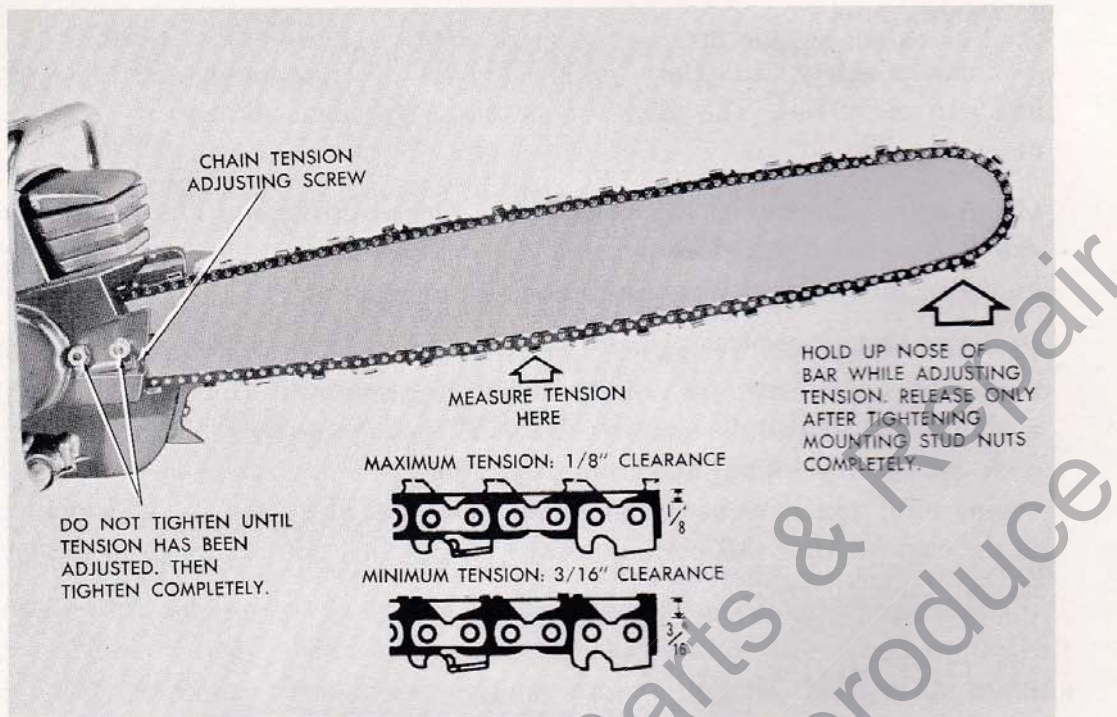

Figure 3—Adjusting Chain Tension
(1) Hold up the tip of the guide bar to take up the play between the studs and mounting slot. The guide bar must be held in this position until the chain tension has been set and the stud nuts tightened. Otherwise, the assembly will shift on the first cut, changing the tension. Improper tension increases wear.
(2) Turn the chain tension adjusting screw *clockwise* until the drive tangs *just* enter the guide bar groove at point shown in figure 3. At the same point, grasp chain between thumb and forefinger—pull it downward—then release. Once again adjust tension so drive tangs *just* enter guide groove as shown
in figure 3. Now tighten the stud nuts completely to lock tension device at this setting. The proper amount of chain slack is illustrated in figure 3.
- (3) KEEP ALL EQUIPMENT IN GOOD OPERATING CONDITION. Poor equipment invites accidents. Keep your chain saw in top shape—chain sharp and properly tensioned. Working with dull chain, tires the operator and makes him less aware of woods hazards.
- (4) HANDLE FUEL SAFELY. Use approved fuel safety containers. When refueling find or clear a bare spot of ground before pouring. If fuel is spilled on saw, wipe it down immediately. Move at least ten feet away from refueling spot before starting engine.
- (5) WEAR PROTECTIVE CLOTHING. Always wear trim-fitting garments of a type least likely to catch in the saw chain. Always wear your safety helmet in the woods. Footwear should be sturdy, with non-slip soles.
- (6) BRUSH OUT SUFFICIENTLY. Always clear all obstructions and debris from the working site as well as from the path of safe retreat. Remove all dead material from the immediate cutting area to minimize fire hazards.
- (7) KEEP YOUR BALANCE AT ALL TIMES. Always keep both hands firmly on your chain saw when cutting. Stand clear of the work, with your weight on both feet. Avoid hitting branches or other objects with the blade. (See figure 3.)
- (8) STAND ON THE UPHILL SIDE WHEN BUCKING. Watch for and eliminate hazards such as trapped saplings, springpoles, and logs which might spring, roll, or shift suddenly when the log is bucked through.
- (9) STOP ENGINE BETWEEN CUTS. Play it safe—never carry a running saw from tree to tree. Always carry the saw with blade to the rear so it will not become snagged in the underbrush.
- (10) BE WARY OF HAZARDS. Learn to recognize and look for “windowmakers”, “sidewinders”, leaners, snags and over-ripe, punky or hollow-bottom trees.